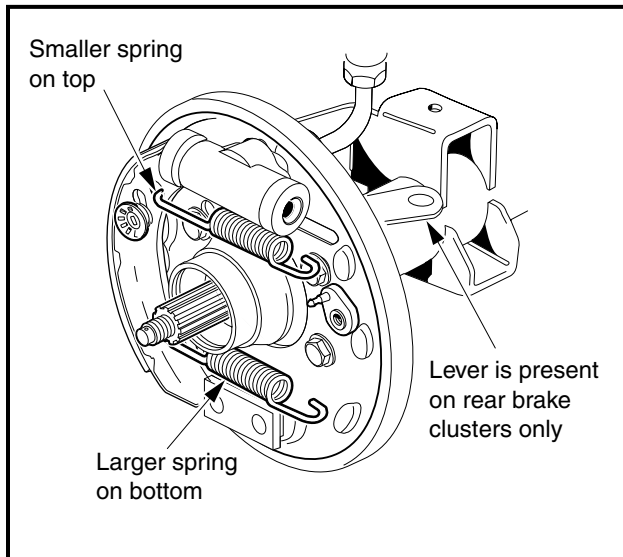

Figure 6a-13 Brake Shoe Tensioning Springs
2. Install the cup washer and compression spring assembly (12) onto the pin of the adjuster assembly (3) of the brake shoe (**Figure 6a-3, Page 6a-4**). Compress the cup and spring with a pair of pliers or a brake tool and rotate 90° to secure the brake shoe to the brake cluster back plate (**Figure 6a-8, Page 6a-12**).
3. Attach the tensioning springs onto the shoe already installed, with the smaller spring on top and the larger spring on the bottom. Make sure that the park brake strut and lever are engaged into the slots provided in each shoe, located immediately above the smaller spring attachment holes (**Figure 6a-13, Page 6a-15**).